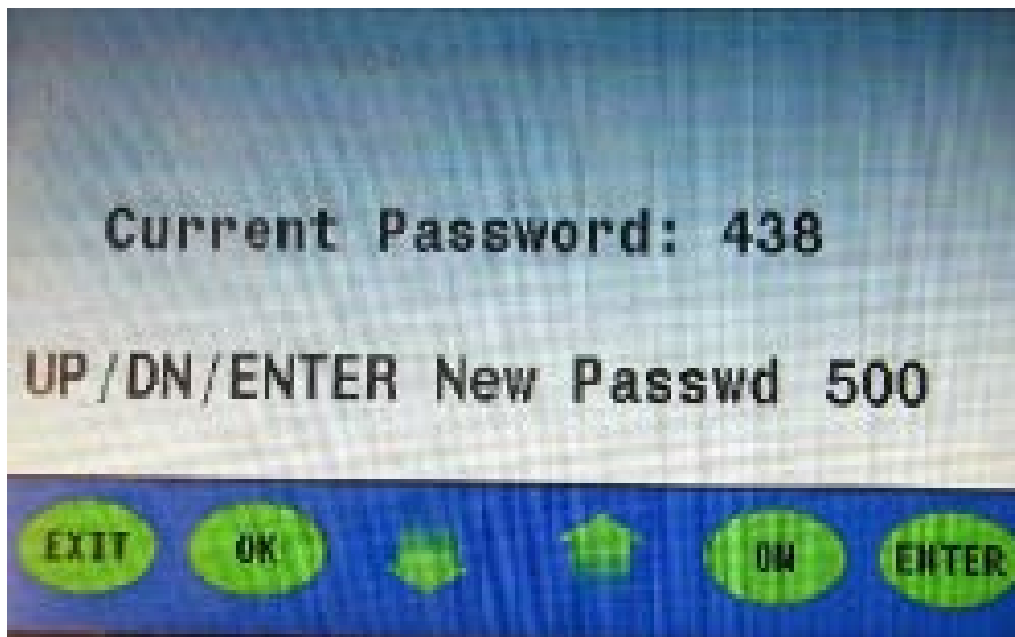

Figure 15
7. To set the first number in the new password sequence, press the **up arrow** (to decrease, use the **down arrow** (**figure 15**)).